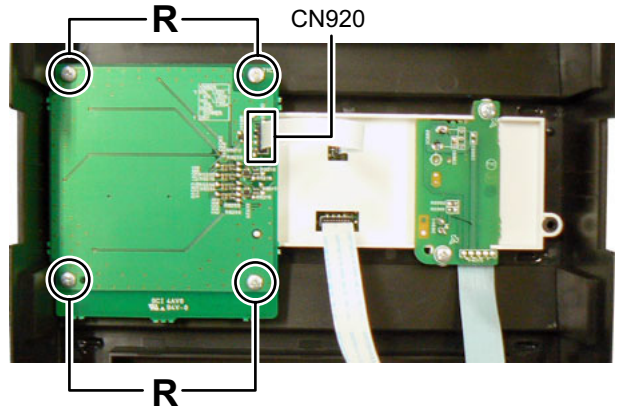

Fig.17
3.1.10 Removing the Touch sensor board (See Fig.17, 18)
- (1) Disconnect card wire from LED board connected to connector **CN920** of the Volume board. (See Fig.17)
(2) Remove the four screws **R** attaching the Volume board. (See Fig.17)